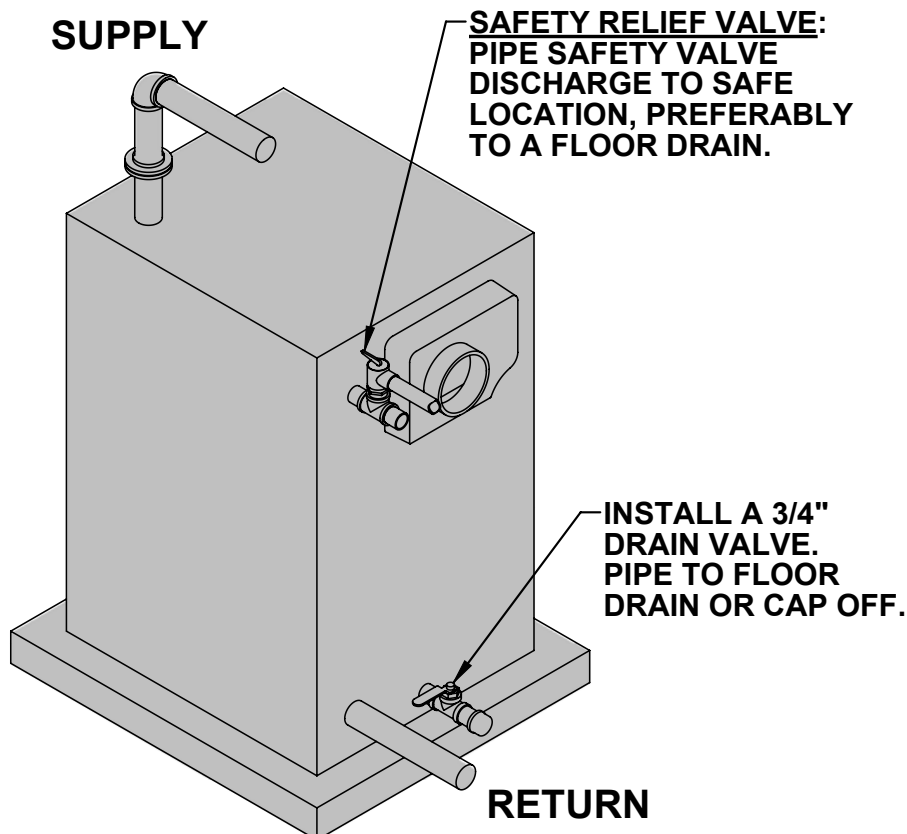

Figure 8.1: Safety Relief Valve Piping
Pipe the Safety Relief Valve off of the 2-1/2" tapping at the upper left side of the Rear Section. Make sure the relief valve sizing meets local code requirements. See Figure 8.1.
1. Install a 3/4" drain valve in the lower center tapping in the Rear Section. See Figure 8.1 and Figure 8.2.